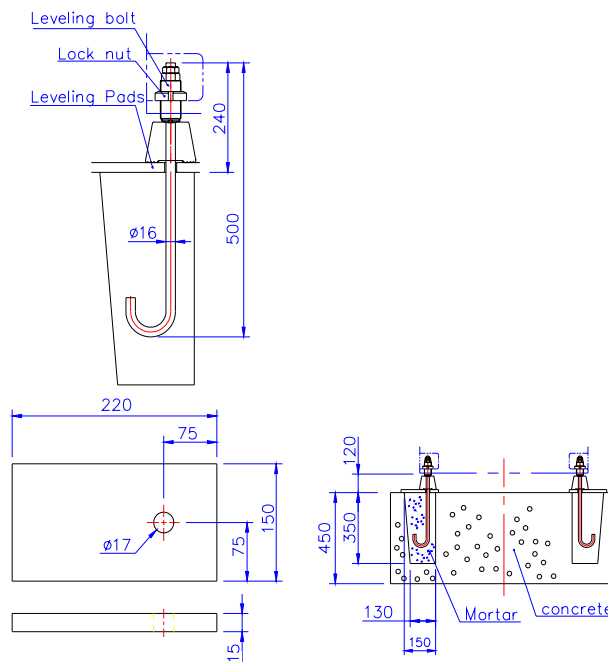

FIG. 2.3 FOUNDATION DRAWING
2.3.3 WHEN ANCHOR BOLT IS USED, INSTALL THE MACHINE ACCORDING TO THE PLAN FIG 2.3